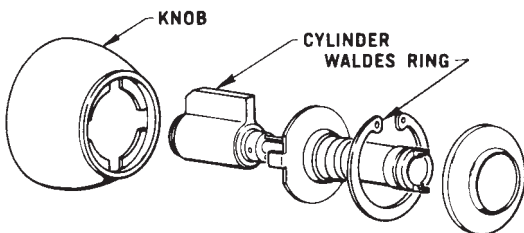

Figure 13.12 Removing cylinder.
5. Using a special Waldes No. 3 ring pliers, remove the large Waldes ring from the groove and withdraw the shank and cylinder (Fig. 13.12).